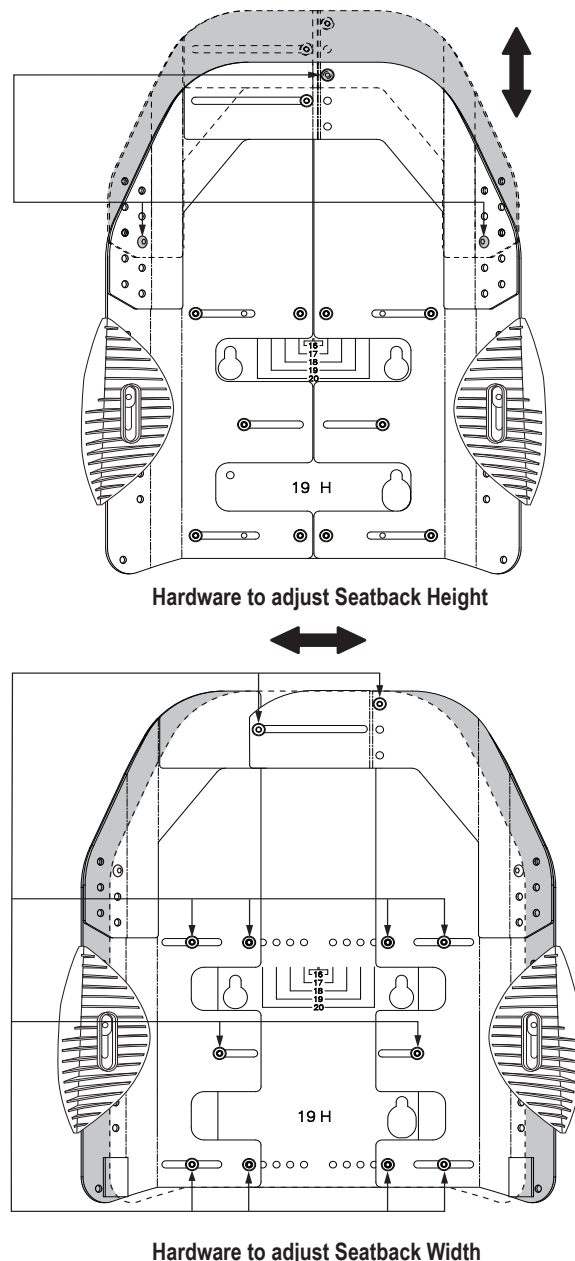

Figure 17. Height and Width Adjustments for Seatback
1. Loosen the hardware. **See figure 17.**